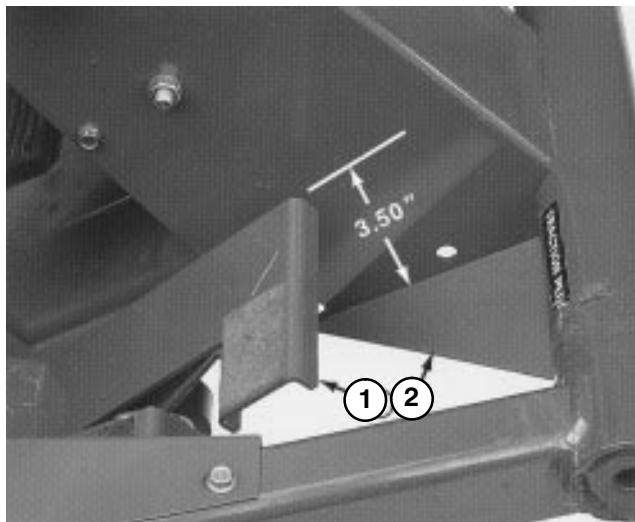
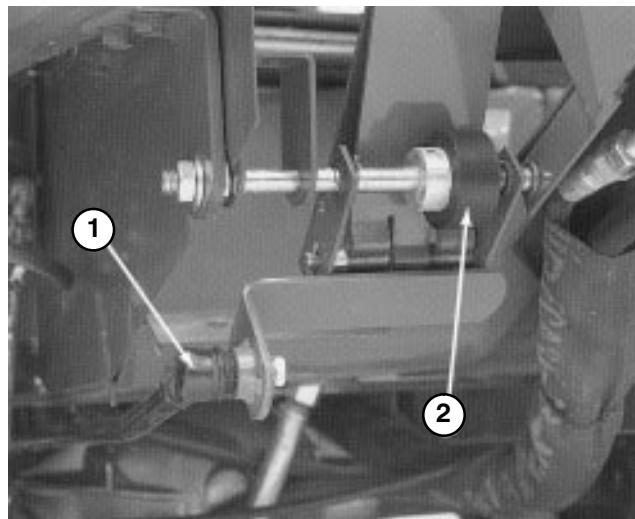

Figure 55
Figure 56
2. Press down on front of traction pedal and check travel. There should be approximately 3.50" clearance between end of pedal and floor plate when pedal is fully depressed (Fig. 55). Adjust pump control rod (Fig. 56) to attain dimension.
1. Loosen two nuts securing traction pedal shaft on right side of pedal (Fig. 56).